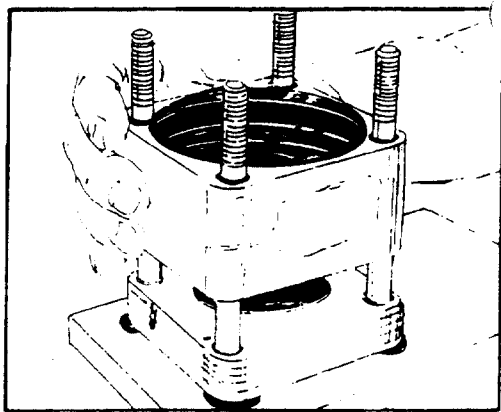

FIGURE 69.
22. Apply clean grease to the metering ring seal ring (3). Position the seal ring in the metering ring seal groove opposite to the end with the alignment pin holes. Stack the metering ring (17) into place, over the four bolts (40), with the seal ring towards the upper cover plate (32), and an alignment pin hole on the metering ring in line with and on the same side as the alignment groove on the side of the upper cover plate. See figure 69. This is required so that the other components can be aligned correctly.